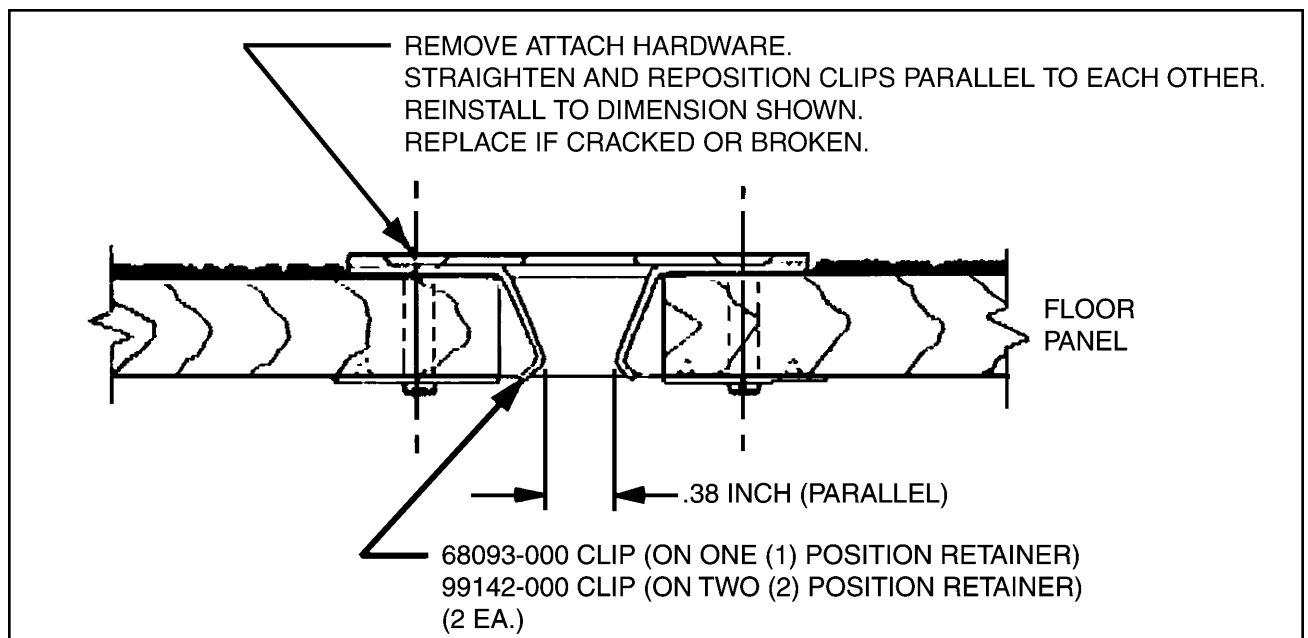

Figure 3-26. Retention Clip Adjustment
### (25) REAR SEAT QUICK DISCONNECT MECHANISM INSPECTION (See Figure 3-26.)
- (b) Adjustment. If the quick-disconnect mechanism fails the above inspection, remove and adjust the retention clips as shown in Figure 3-26. Reinstall the adjusted clips and reinspect.